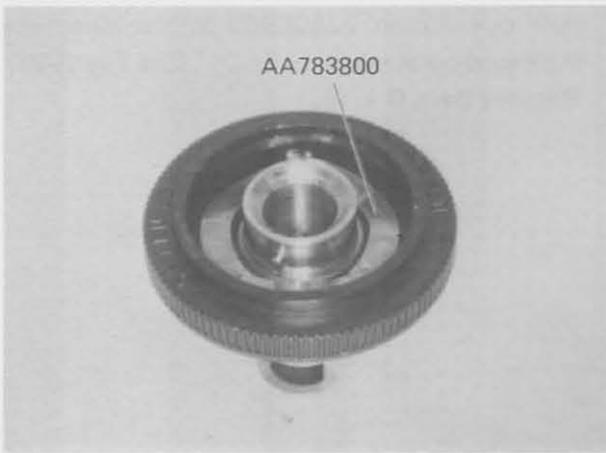

Fig. 3-30
- b) Detach Spring AA783800. (See Fig. 3-30)